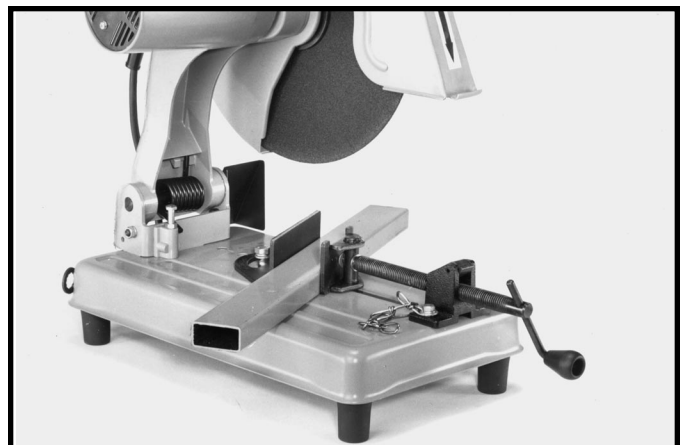

Fig. 13
2. Fig. 13, illustrates a workpiece clamped in the vise for a typical angle cutting operation.